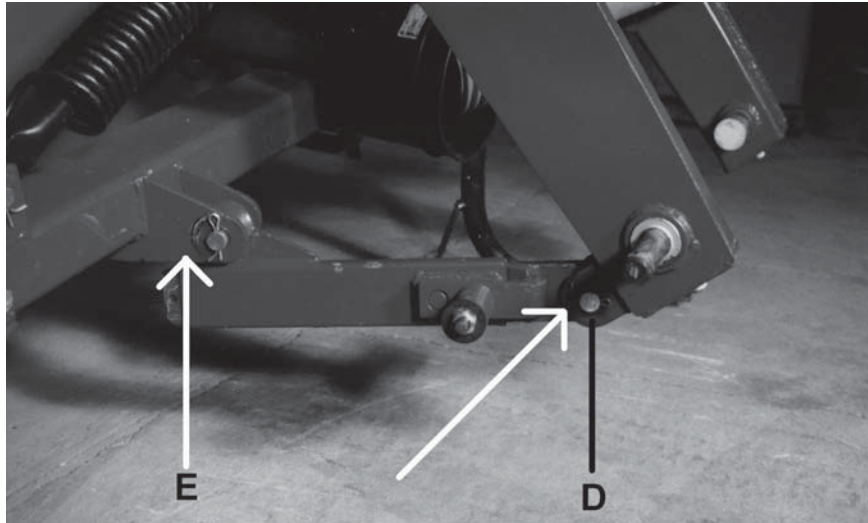

Figure 4
6. Connect the break away tongue to the frame using a break away pin and cotter keys(E). (See **Figure 4**.)